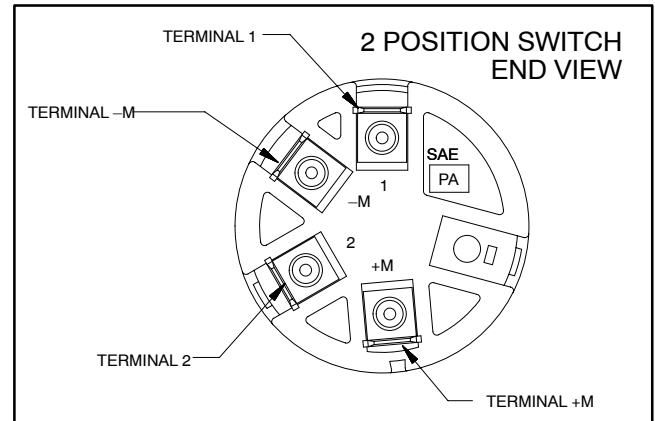

Figure 3
Early production switches had four switch terminals and two key positions (OFF and RUN). The switch terminals are marked as shown in Figure 3.
1. For 2 position switch (Fig. 3):